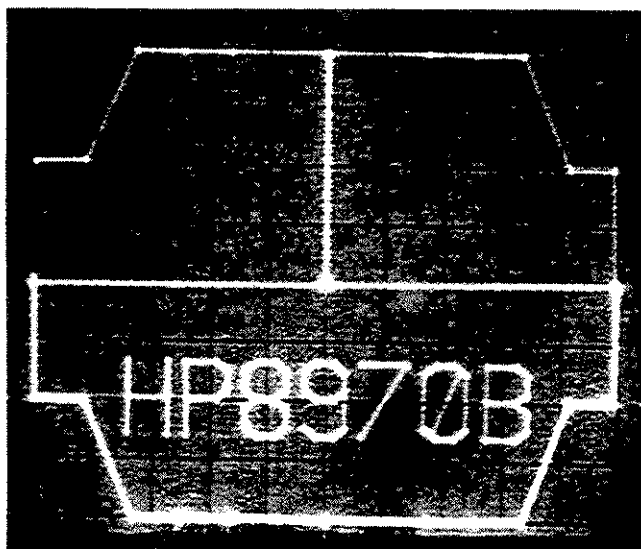

Figure 8-6. Test Pattern on Oscilloscope
4. The test pattern should be 6.0 ± 0.5 volts vertically and horizontally. Adjust the oscilloscope until the test pattern fills the grid area of the display (see Figure 8-6). If no problem is detected with the test pattern, continue with the HP-IB/SIB Check (Check 7).